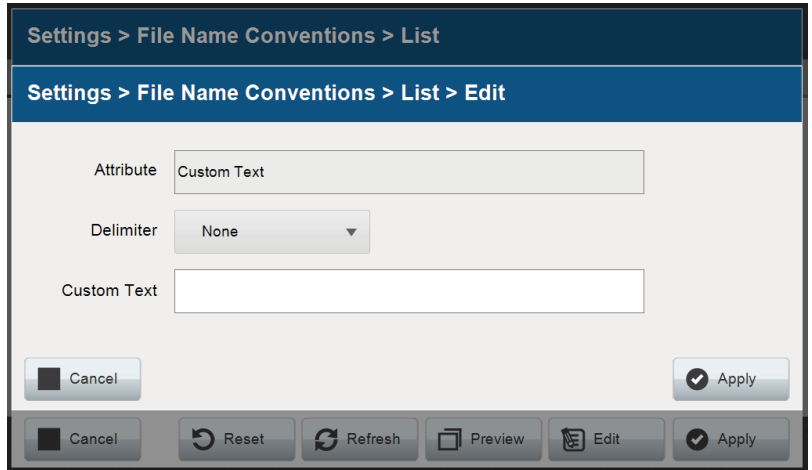

Figure 171. 'Attribute Edit' screen.
5. Select **Apply** after editing the necessary information for each attribute (Figure 171).